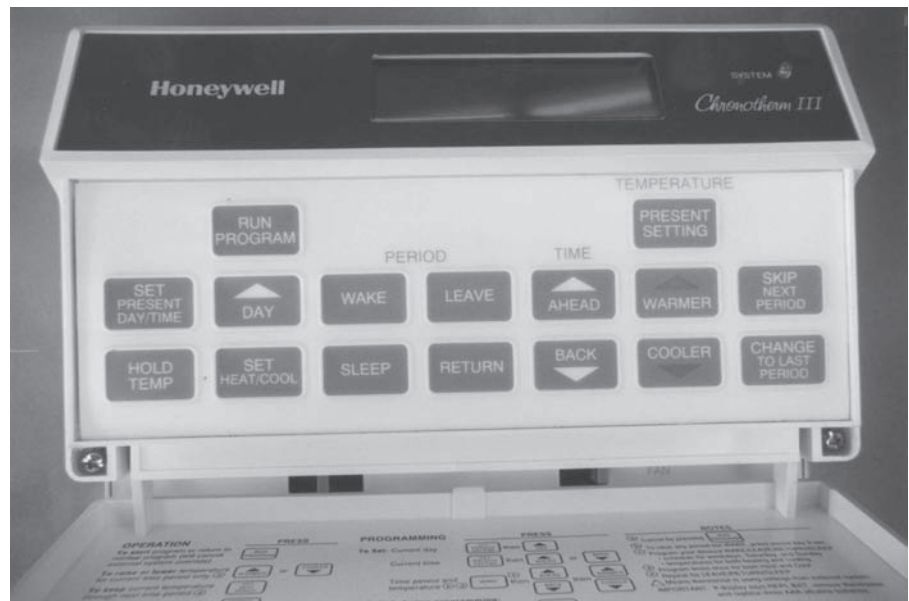

Figure 29–15
The circuit shown in Figure 29–9 displays the current path of the heat anticipator for a heating and cooling thermostat during the heating cycle. In this mode of operation, current flows through the heat anticipator while the thermostat contact is closed and the heating unit is in operation.
In Figure 29–10, the thermostat has been switched to the cooling mode. Notice that a current path exists through the cooling anticipator when
► **Figure 29–9**
for several different conditions or events. Many permit the thermostat to be programmed differently for each day. The temperature can be set differently for different times of the day. Most electronic thermostats provide a variety of functions and options that are set by the homeowner. An electronic thermostat is shown in Figure 29–15.